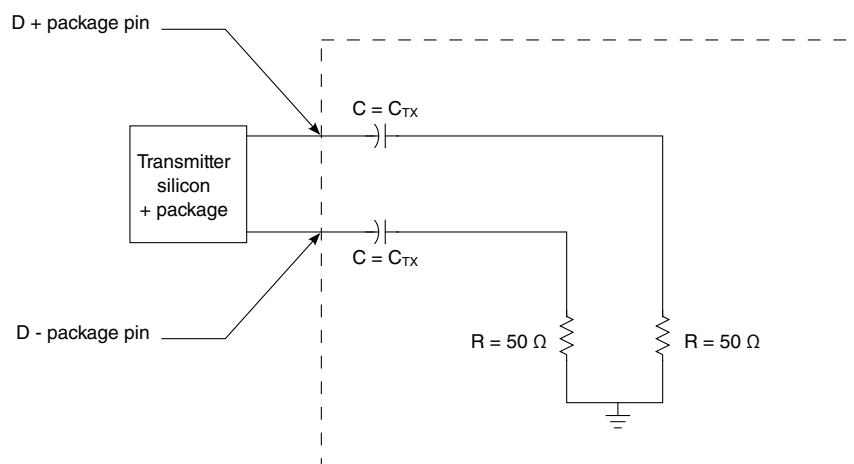

Figure 38. Test and measurement load
1. Specified at the measurement point into a timing and voltage test load as shown in Figure 38 and measured over any 250 consecutive transmitter UIs.
<p>1. Specified at the measurement point and measured over any 250 consecutive UIs. The test load in Figure 38 must be used as the receiver device when taking measurements. If the clocks to the receiver and transmitter are not derived from the same reference clock, the transmitter UI recovered from 3500 consecutive UI must be used as a reference for the eye diagram.</p> <p>2. A $T_{RX-EYE} = 0.40$ UI provides for a total sum of 0.60 UI deterministic and random jitter budget for the transmitter and interconnect collected any 250 consecutive UIs. The $T_{RX-EYE-MEDIAN-to-MAX-JITTER}$ specification ensures a jitter distribution in which the median and the maximum deviation from the median is less than half of the total. UI jitter budget collected over any 250 consecutive transmitter UIs. It must be noted that the median is not the same as the mean. The jitter median describes the point in time where the number of jitter points on either side is approximately equal as opposed to the averaged time value. If the clocks to the receiver and transmitter are not derived from the same reference clock, the transmitter UI recovered from 3500 consecutive UI must be used as the reference for the eye diagram.</p> <p>3. It is recommended that the recovered transmitter UI is calculated using all edges in the 3500 consecutive UI interval with a fit algorithm using a minimization merit function. Least squares and median deviation fits have worked well with experimental and simulated data.</p> <p>4. For recommended operating conditions, see Table 3.</p>